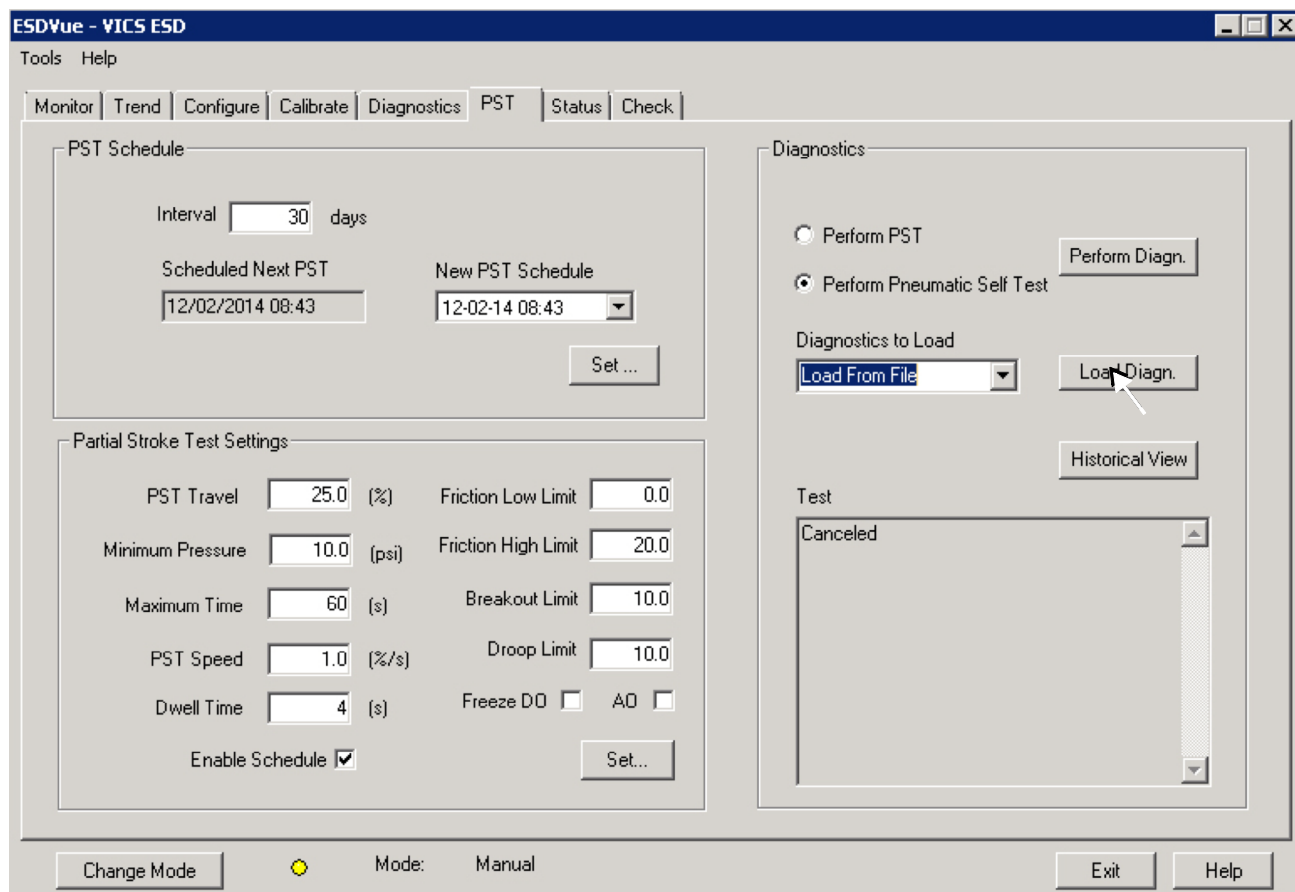

Figure 289 - Selecting Load From File
2. Click **Load Diagn** as shown in Figure 289.